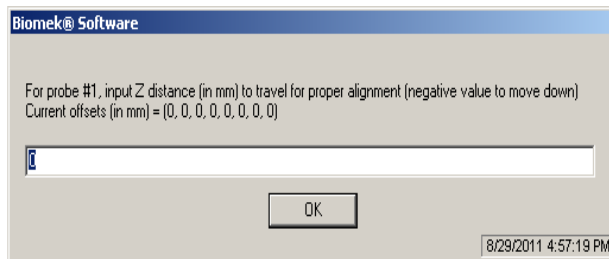

Figure 6. Moving the probe (in mm) up or down for proper alignment.
2.3.3.1 In addition to the regular series of prompts that appear in the standard extraction method (see 4.4.7), the GI Interface prompt (shown in Figure 6) will also appear.
- 14 The next prompt that opens up (Figure 6) will allow the user to adjust the probe positioning with respect to the Magnabot surface (in mm), one probe at a time. Adjusts should be made carefully, making every effort not to overestimate the distance and cause the tips to crash onto the Magnabot surface. To move the tips down, enter in negative values, e.g., -2, whereas to move the tips up, enter in positive values. This may need to be repeated several times before the tip (it does one probe at the time, although all of the probes move together) is aligned. To determine if the probe (probe #1 in this example) is properly aligned in its z-axis, insert a Post-It note between the P20 tip loaded onto probe #1 and the flat surface of the inverted Magnabot. A slight tug on the Post-It note should be felt as you try to move it out from between the P20 tip and the Magnabot. Click OK when the amount the tips should be moved is entered.